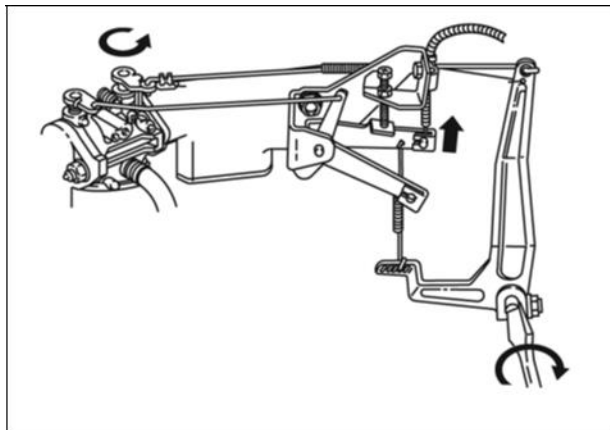

Figure 24
1. Move governor control lever (Figure 24) up to end of travel and hold in this position (throttle wide open).